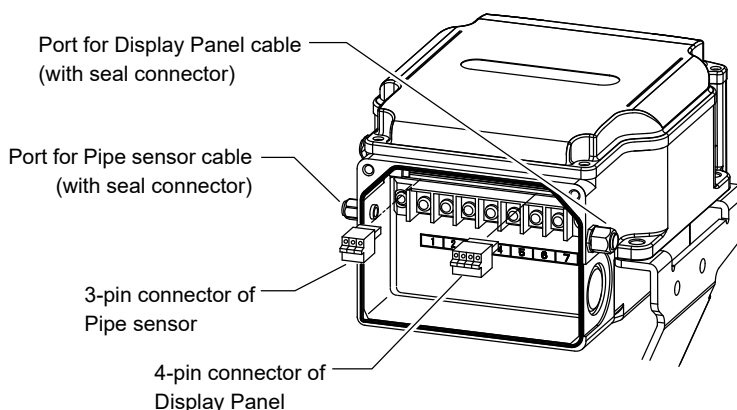

Figure 14. 4-pin connector and 3-pin connector
2) Lead the cable connected from Display Panel through the port (for the Display Panel cable) of the actuator. Refer to Fig. 14 for the port location.